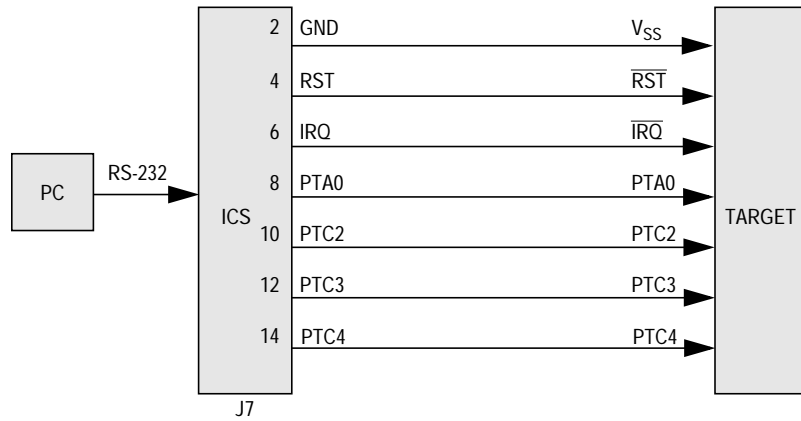

Figure 3. MC68HC908MR32 MON08 Connections
2. Connections (see Figure 3):